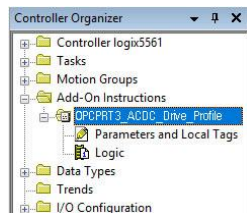

Figure 48: AC/DC Drive Profile Add-On Instruction
- 2) Right click on "Add-On Instructions" in the controller organizer view and select "Import Add-On Instruction". Browse and import the AC/DC drive profile add-on instruction. Refer to Figure 48.